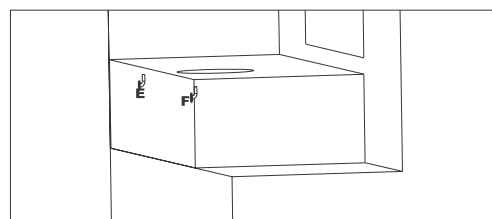
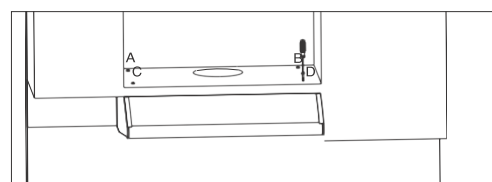

Fig. 13
Fig. 14
2. Offer up the intended position of your hood and mark the two fixing points on the rear of the hood (shown as E and F on Fig. 13) also the four fixing points on the top of the hood (shown as A B C D on Fig. 14)
4. Hang your appliance over the L shaped hanger screws (at points E, F that you have installed) and then use the supplied four screws up at corner points A, B, C, D (Fig. 14).